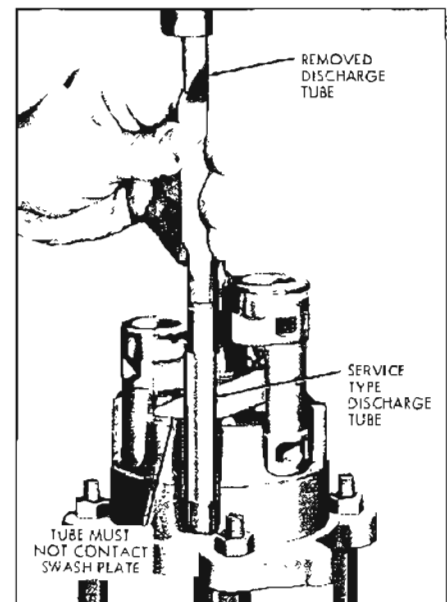

Figure 11-140—Installing Service Type Discharge Tube
4. Assemble one end of service discharge tube into hole in front cylinder. See Figure 11-140.